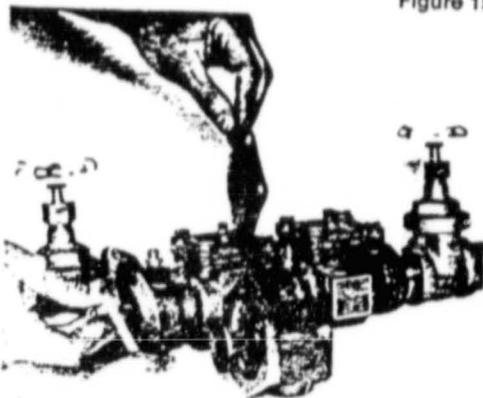

Figure 16
4. Remove housing cover, being careful not to damage diaphragm. (Figure 16.)